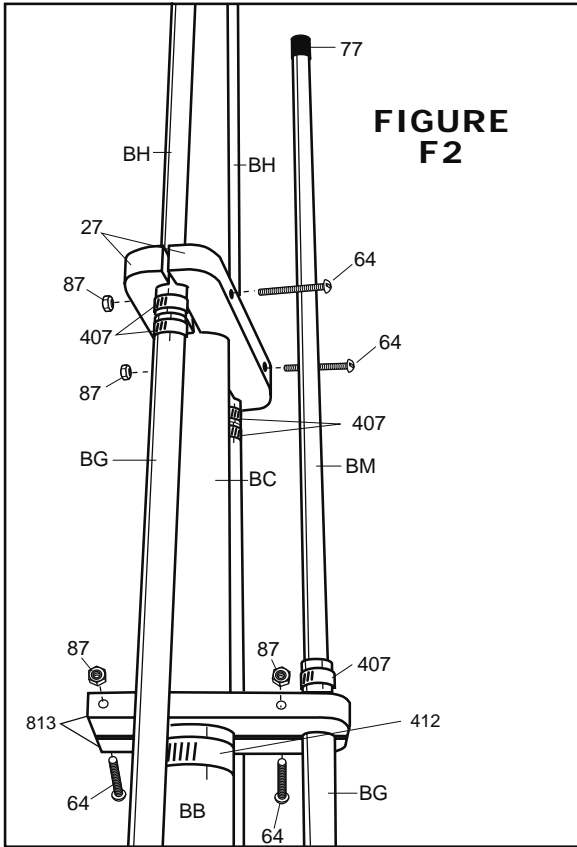

FIGURE F2
Secure the 814 bracket assembly flush against the top of BA with BG tube in place 1/2" (1.3 cm) below the brackets (Figure F3). Attach brackets (813) to tubes BC and BG (Figure F2) using screws (64) and nuts (87). Put worm clamp (407) over top of BG tube, insert tube BM and secure. Set Dimension F using Chart B.